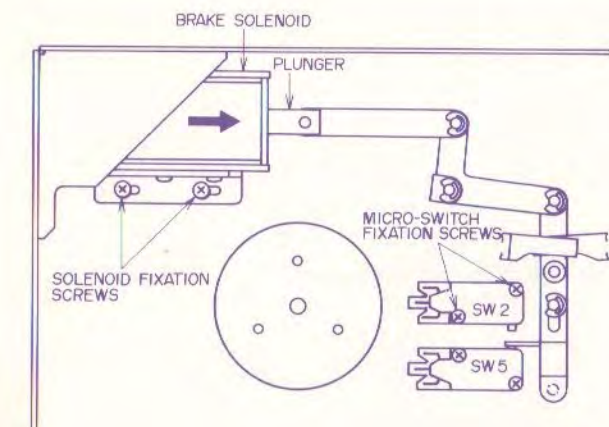

Fig. 1.
1. BRAKE SOLENOID POSITION ADJUSTMENT (Refer to Fig. 1)
2. MICRO SWITCH SW2 POSITION ADJUSTMENT (Refer to Fig. 1)